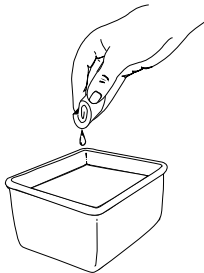

Fig. 32
3. Wash the filter in detergent and water (Fig. 32). Rinse the filter thoroughly. Squeeze out excess water. Allow it to dry completely.